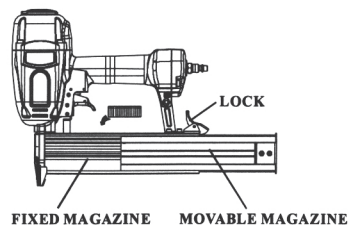

Figure 3
1. Depress the LOCK (73) to release the MOVABLE MAGAZINE (68) and pull the magazine out fully as shown in Figure 3.
2. Place a full clip of the specified type and size fasteners on the FIXED MAGAZINE (64), up to 100 fasteners may be loaded in the magazine.